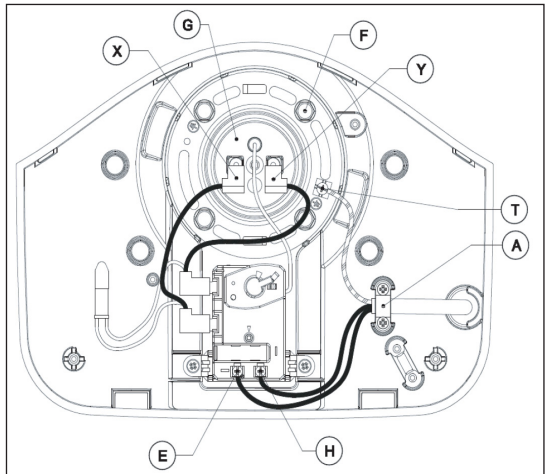

Figure 7 - Open Heater Cover Detail
- Remove the front cover plate. Disconnect terminals X, Y, and T. See Figure 7.
- Unscrew the four (4) heating element retaining nuts (Figure 7, F).
- Remove the element (Figure 7, G).